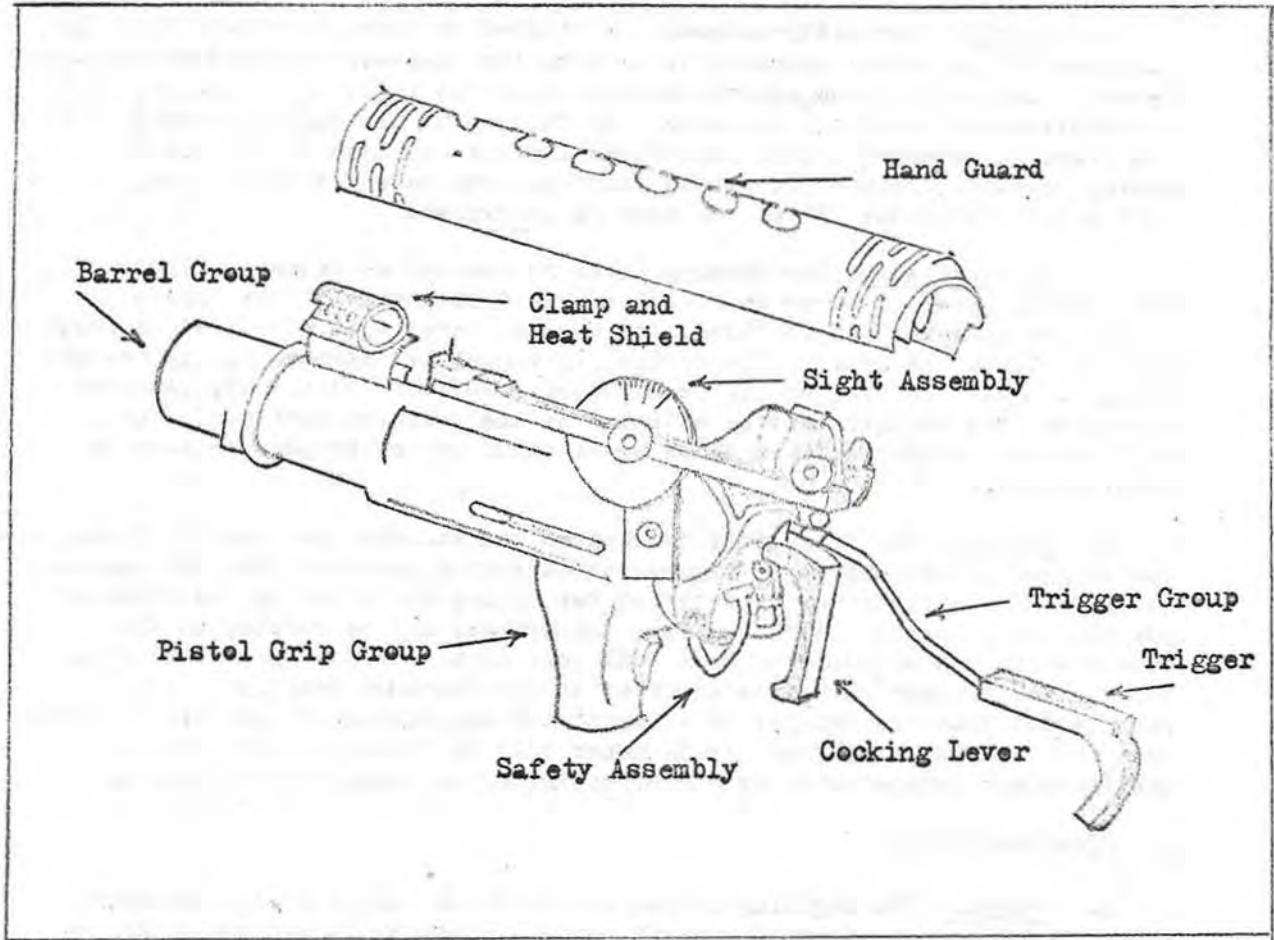

FIGURE 17. LAUNCHER CONTROLS
a. Safety: The safety assembly is located as shown in Figure 17. The function of the safety assembly is to stop the rearward movement of the sear lever. The safety is engaged by moving it to the right until the letter "F" on the launcher housing is covered. At this point the safety assembly blocks the rearward movement of the sear lever and prevents the firing pin from moving forward. Before firing the launcher, the safety must be moved to the left until the letter "F" on the housing is exposed.
b. Cocking Lever: The cocking lever is located as shown in Figure 17. The cocking lever is screw on to the rearward extension of the firing pin. Before the Launcher can be fired, the cocking lever must be pulled rearward until a "click" is heard. The firing pin cannot be returned to the neutral position until the trigger has been pulled. CAUTION: Before the launcher is cocked, the trigger must be extended to the rearward position. This will prevent accidental fire which would occur if the steps were done in reverse order.
c. Trigger: The trigger is located on the launcher as shown in Figure 17. The trigger is mounted on a trigger bar extending rearward from the launcher housing. The trigger may be extended for firing or placed in the forward position for storage. Additionally, the trigger may be rotated on the extension bar to either the UP or DOWN positions. Before the launcher is cocked, the trigger should be extended to the rearward position. It is recommended that the trigger be extended and maintained in the down position when it is anticipated that the launcher will be fired. In this position, the launchers trigger will not interfere with the trigger of the rifle.